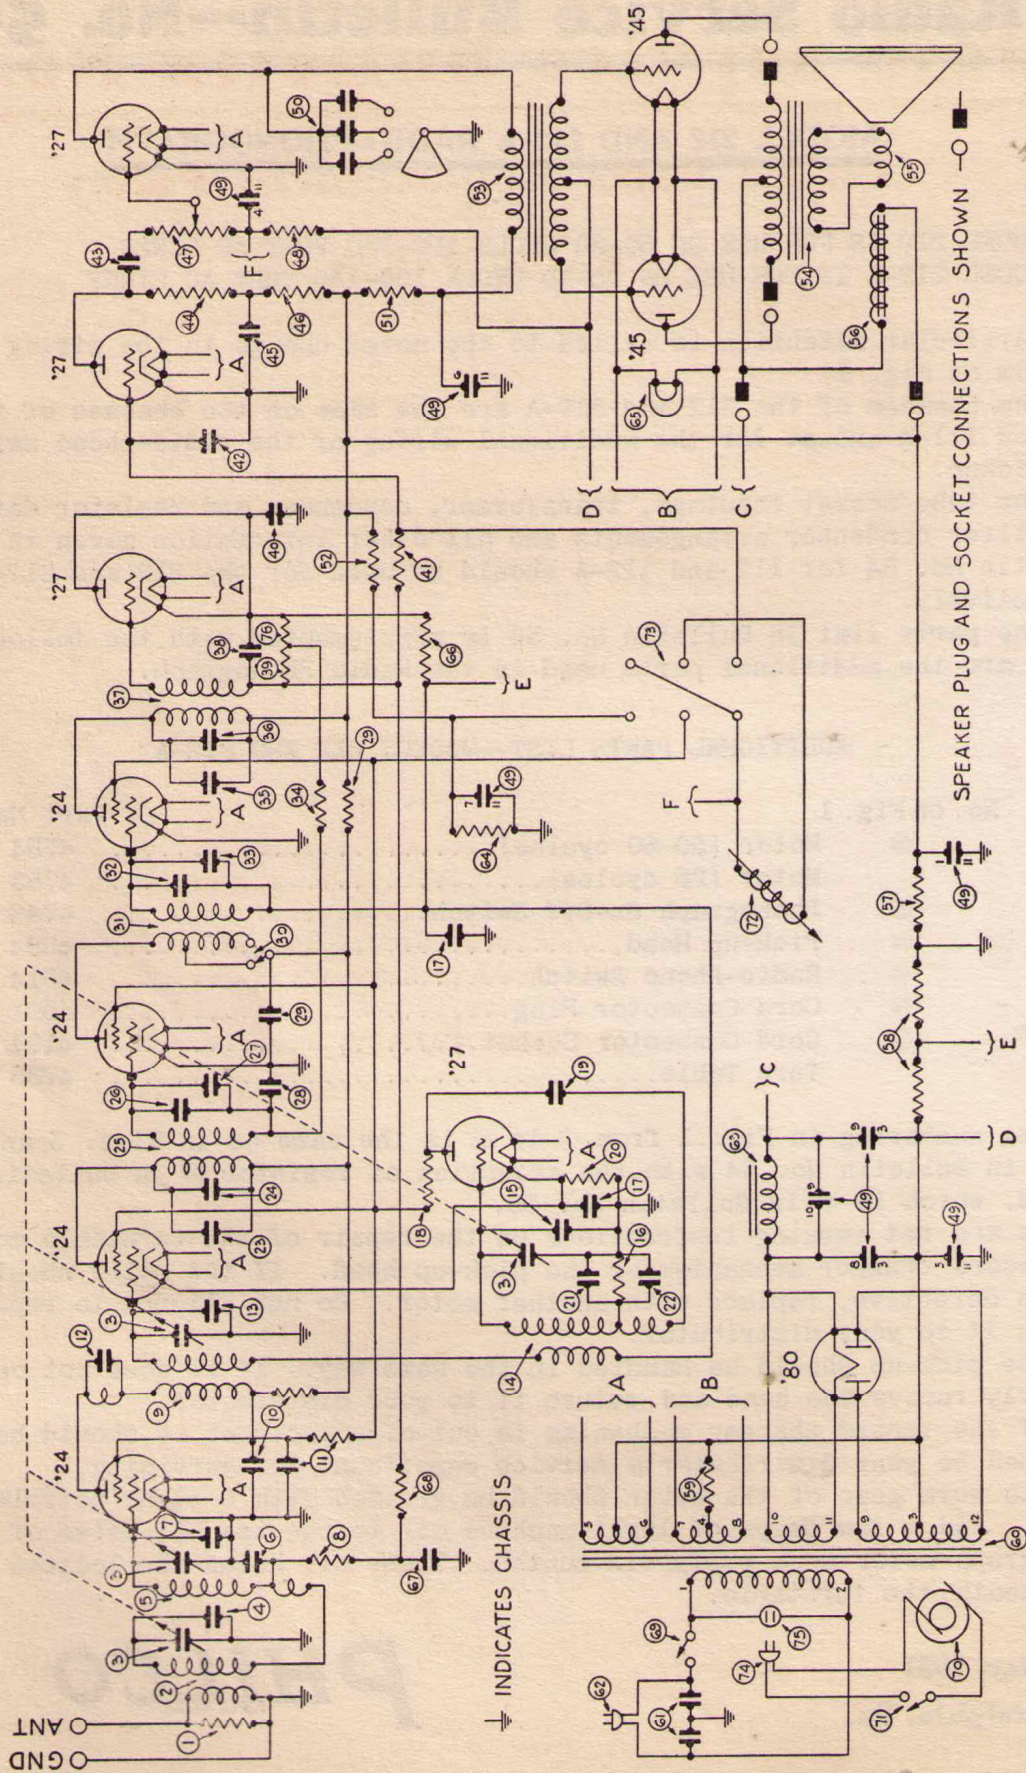

Fig. 1
The numbering in Fig. 1 from ① to ⑥⑥ is the same as in Figs. 3 and 4 shown in Bulletin No. 54 with the exception of resistor ⑦⑩ in Bulletin No. 54, which is ⑦⑮ in Bulletin No. 55.